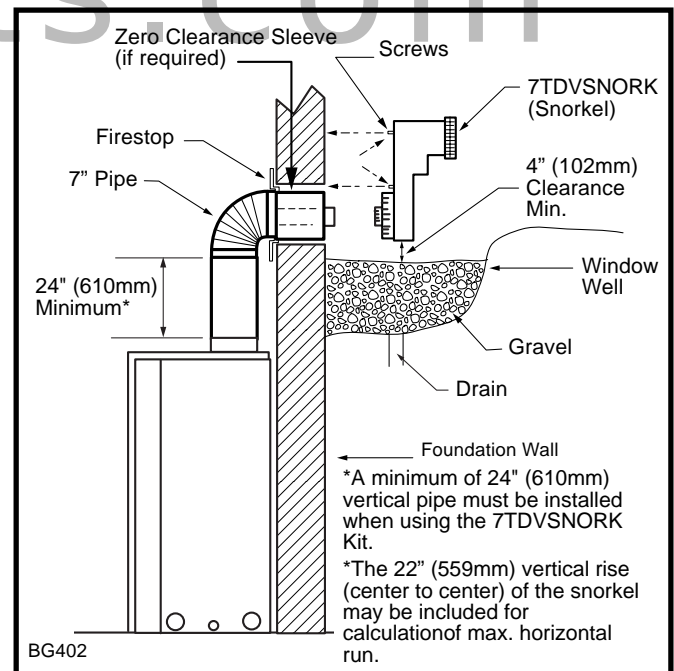

Fig. 23 Below grade installation.
2. Remove soil to a depth of approximately 16" (406mm) below base of snorkel. Install drain pipe. Install window well (not supplied). Refill hole with 12" (305mm) of coarse gravel leaving a clearance of approximately 4" (102mm) below snorkel. (Fig. 23)
7. Level the soil to maintain a 4" (102mm) clearance below snorkel. (Fig. 23)